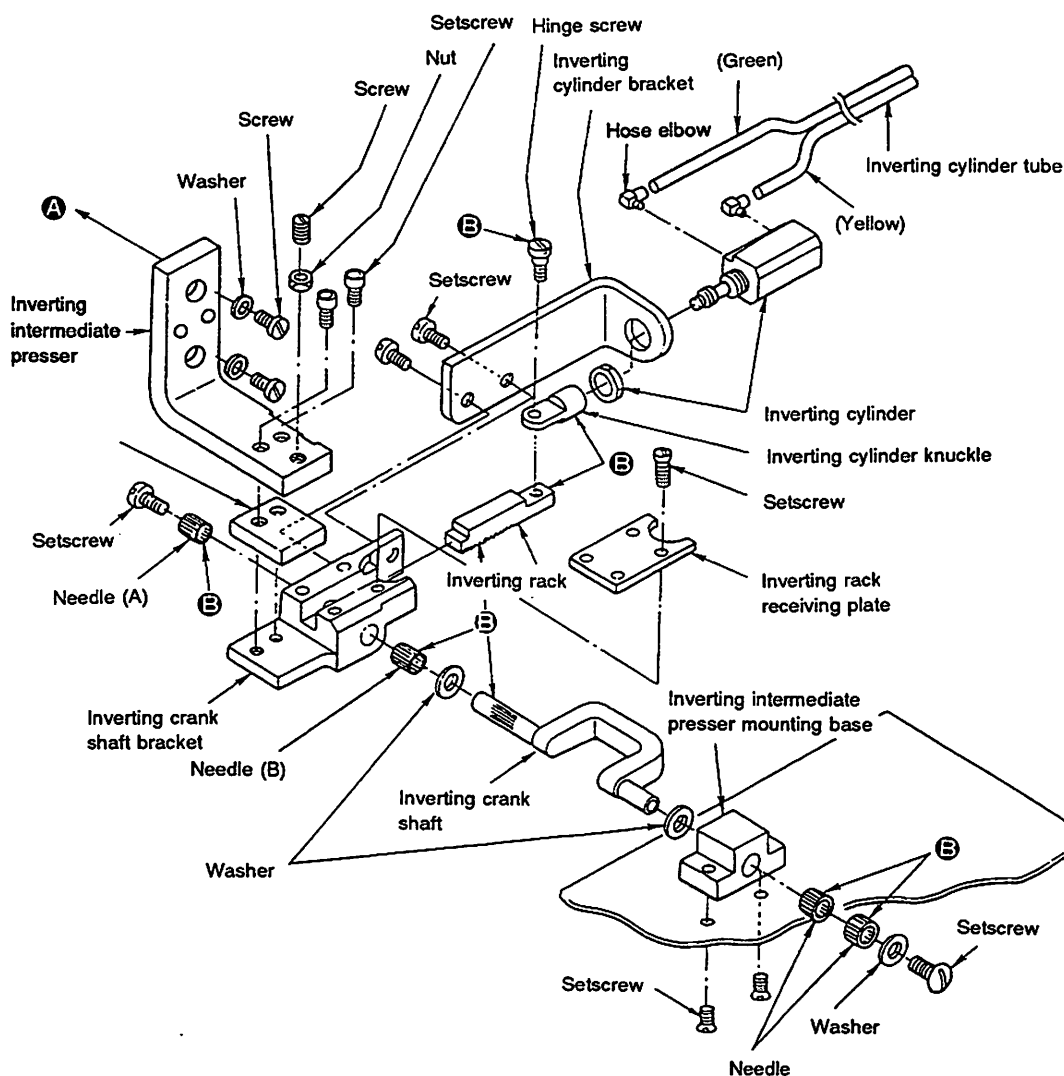

Fig. 4-12-1
- 1) Assemble the inverting intermediate presser asm. referring to Fig. 4-12-1.